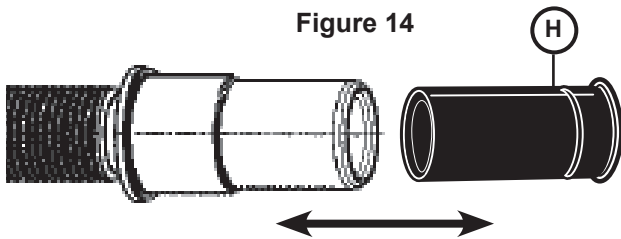

Figure 14
2. Obtain the Rubber Drain Hose Adaptor (H) spring clamp from the Dishwasher Installation Kit (**do not substitute**).
3. Insert the drain hose adaptor into the **end of the drain hose** (see **Figure 14**). Be sure to fully insert the drain hose adaptor.